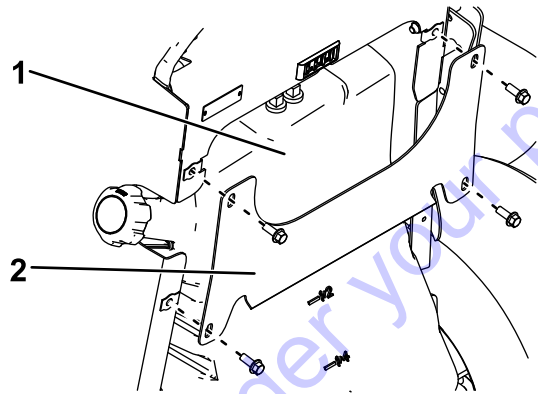

Figure 31
3. Remove the cross bracket (Figure 31).